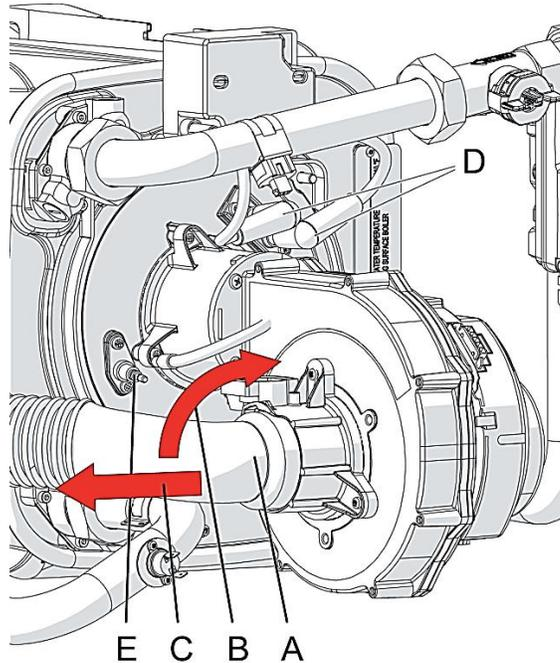

Figure 10-3: Removing the Air Inlet Silencer
3. Disconnect the two wires “D” (Figure 6-2) from the ignition electrodes and the wire “E” (Figure 10-3) from the flame detection electrode.
5. Rotate the air inlet elbow connector “B” (Figure 10-3) in the up direction.